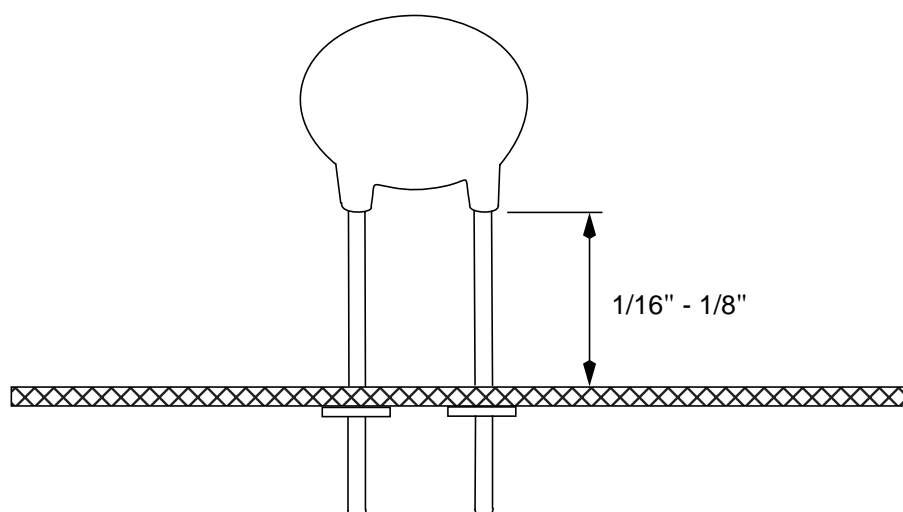

Figure 5 - Stand-Off Mounting
- 5.4.5 For stand-off mounting of high power resistors and ceramic, glass or transistor components, unless otherwise specified on the engineering drawing, ensure that the component body will stand-off the board $1/16"$ - $1/8"$ (see Figure 5). If flow soldering is being performed, it is permissible to form the component leads such that the component will stand-off the printed circuit board the required distance without mechanical support. Ensure that none of the body material of the component extends into the solder joint. Ceramic or glass bodied components showing evidence of cracks or damage to body material are not acceptable.